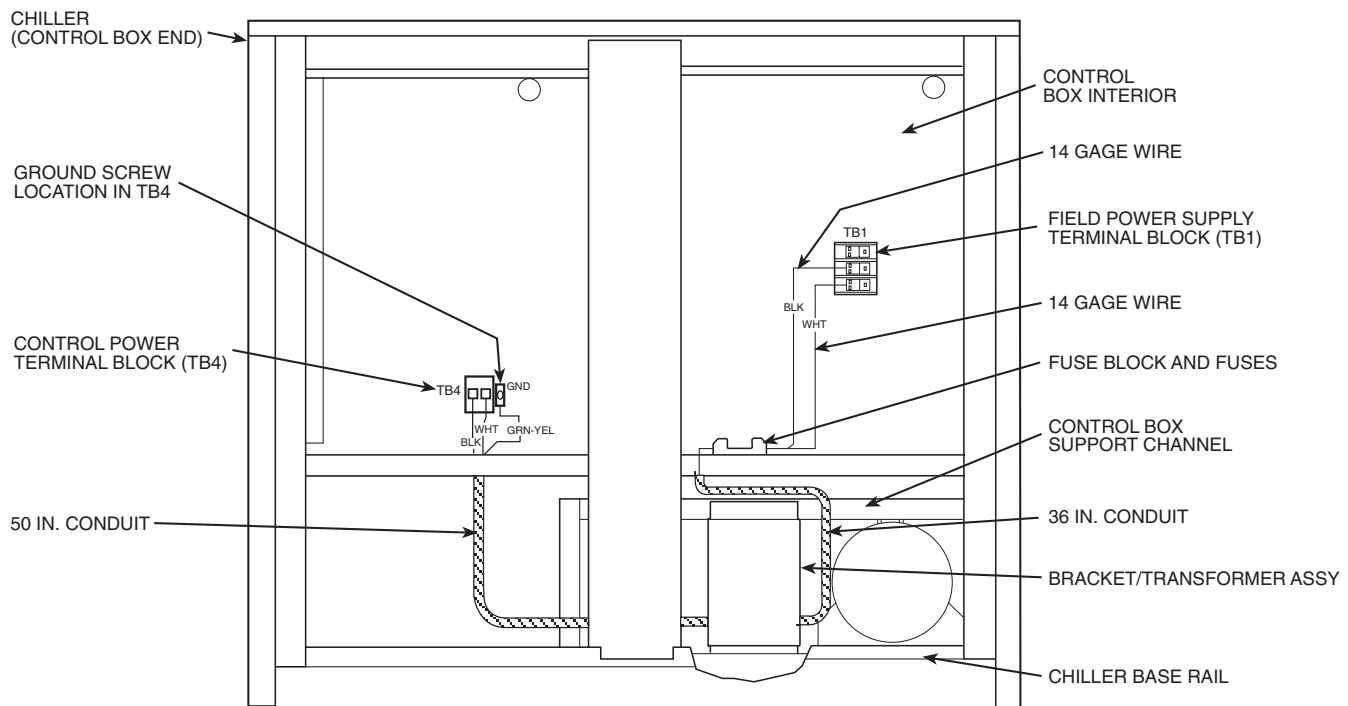
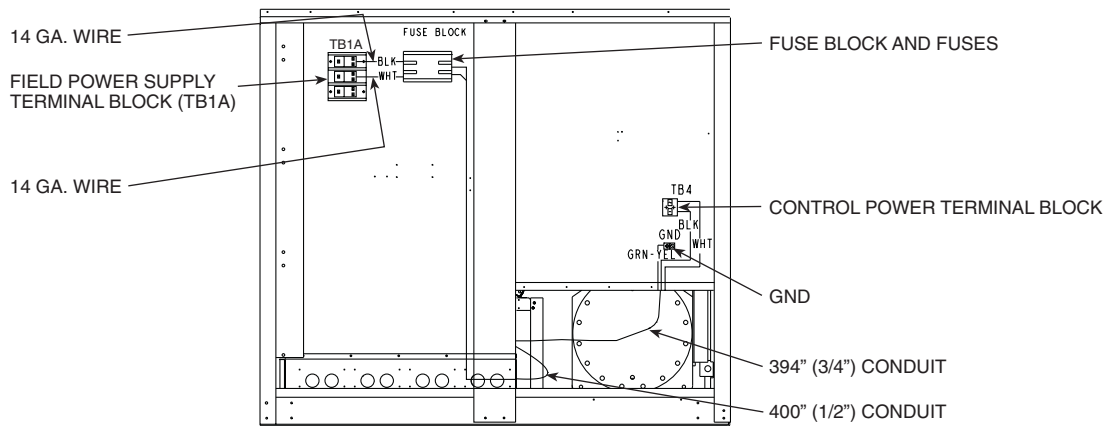
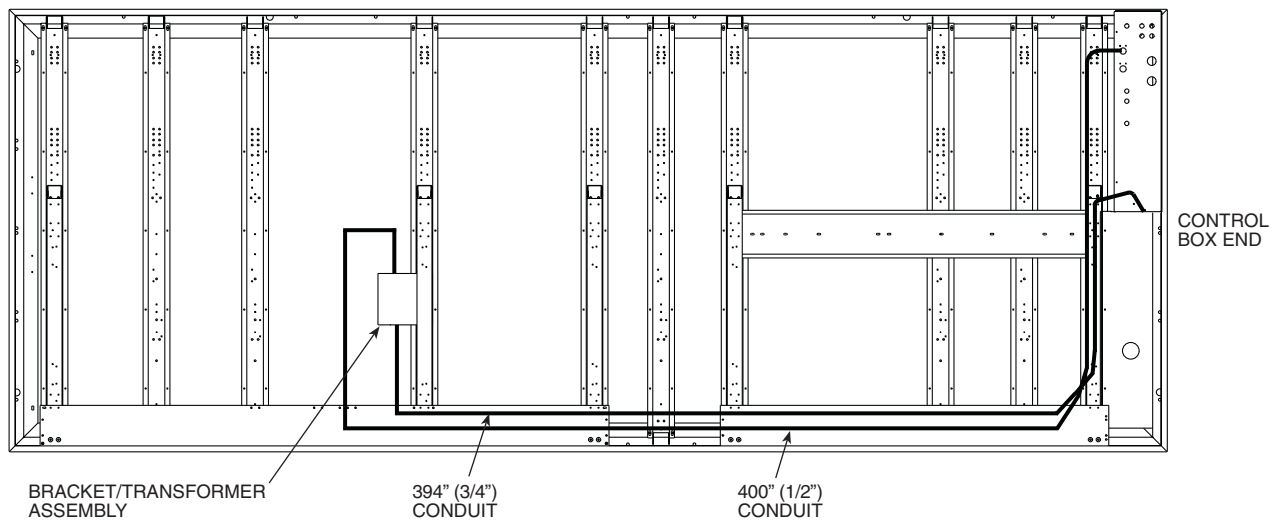
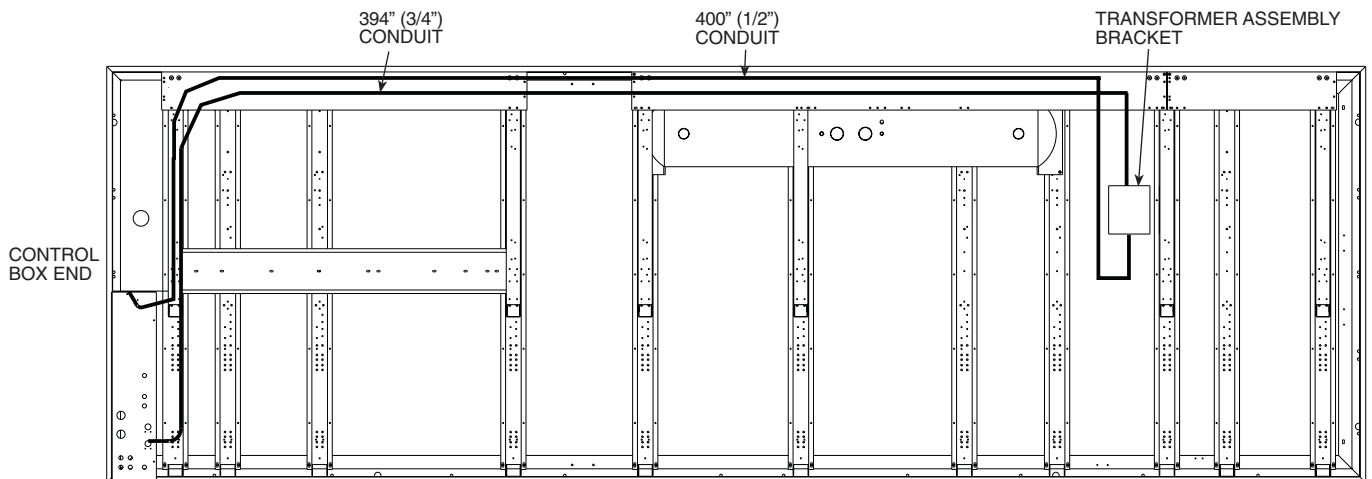

Fig. 1 — Transformer Mounting Location and Wiring — 30GXN,R080-178 (and Associated Modular Units)
Fig. 2 — Fuse Block Mounting Location and Wiring — 30GXN,R204-350 and Associated Modular Units
Fig. 3 — Transformer Mounting Location — 30GXN,R204-225 and Associated Modular Units
Fig. 4 — Transformer Mounting Location — 30GXN,R249-264 and Associated Modular Units
5. Mount the fuse block (Part No. HY11BM630) to the bottom of the control box (Fig. 1) using the two 10B-16 x $\frac{3}{4}$ -in. screws for 30GXN,R080-178 units. For 30GXN,R204-350 units, mount the fuse block to the back of the control box (Fig. 2).
7. Mount the control transformer assembly to the chiller. Both the chiller and the accessory sheet metal bracket have pre-drilled holes for this purpose. Using the four $\frac{3}{8}$ -in.-16 x $1\frac{1}{4}$ -in. hex head screws, screw the bottom of the transformer assembly to the chiller base rail (see Fig. 1 for 30GXN,R080-178 and Fig. 3 for 30GXN,R204-225, Fig. 4 for 30GXN,R208, 228, 249-264, or Fig. 5 for 30GXN,R253, 268-350), screw the top of the transformer assembly to the control box support channel or coil support channel for 204-350 sizes.
9. For 30GXN,R080-178 models, connect the 36-in. (914-mm) conduit assembly between the transformer enclosure and the bottom of the 30GXN,R control box using the $\frac{1}{2}$ -in. electrical reducing washers supplied (see Fig. 1). Connect one end of the wires to the terminals on the fuse block opposite where the 14-gage wires were installed. Connect the other ends of the wires to the primary side of the transformer according to the connection diagram for the correct voltage as shown in Fig. 8.
10. For 30GXN,R204-350 models, connect the 400-in. (10160-mm) conduit assembly ($\frac{1}{2}$ -in.) between the transformer enclosure and the bottom right side of the 30GXN,R control box (left box) using the $\frac{1}{2}$ -in. electrical reducing washers supplied (see Fig. 2). Connect one end of the wires to the terminals on the fuse block opposite where the 14-gage wires were installed. Connect the other ends of the wires to the primary side of the transformer according to the connection diagram for the correct voltage as shown in Fig. 8.
11. For 30GXN,R080-178 models, use the 50-in. (1270-mm) conduit assembly to connect the terminals on the secondary side of the transformer to the chiller control block, TB4. See Fig. 1 and Fig. 8.
12. For 30GXN,R204-350 models, use the 394-in. (10008-mm) conduit assembly ($\frac{3}{4}$ -in.) to connect the terminals on the secondary side of the transformer to the chiller control block, TB4. See Fig. 2 and Fig. 8.
13. For all models, connect the stripped end of the transformer ground wire to the ground screw adjacent to the chiller control terminal block, TB4. Connect the ring end of the same wire to the ground lug in the transformer box. See Fig. 1 and Fig. 2.